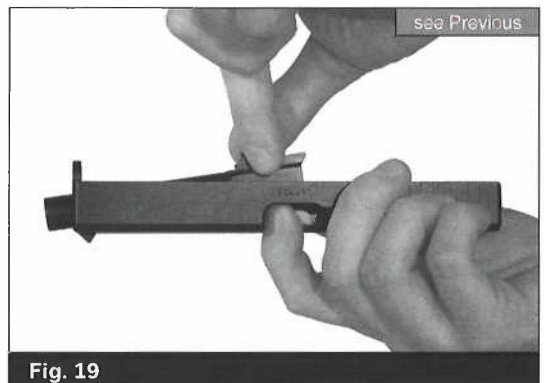

Fig. 19
- Grasp the barrel by the bottom lug and lift it clear of the slide. (Fig. 19)